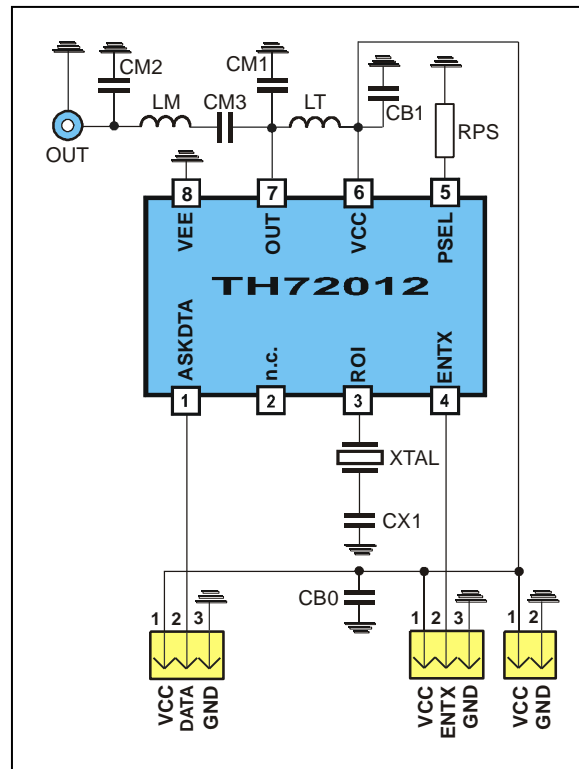

Fig. 17: Test circuit for ASK with 50 Ω matching network
- Data according to test circuit in Fig. 17
6.1. Test circuit component list to Fig. 17